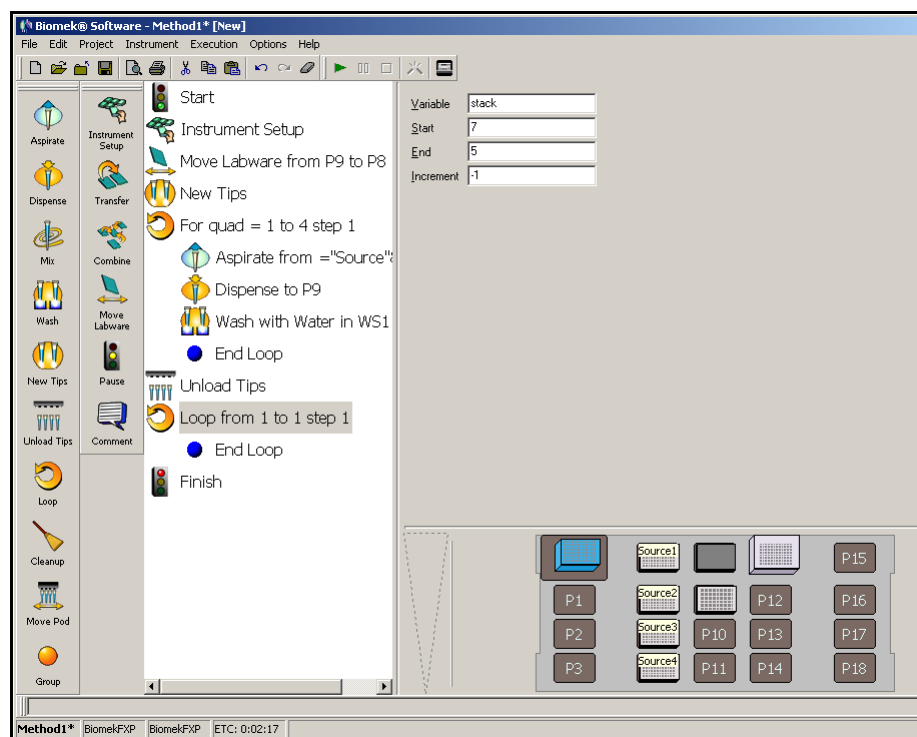

Figure 3-18. Loop to stack plates
2. Configure the Loop step to create a Variable named **stack** with a Start value of **7**, an End value of **5**, and an Increment value of **-1**. Your Loop step should look like Figure 3-18.